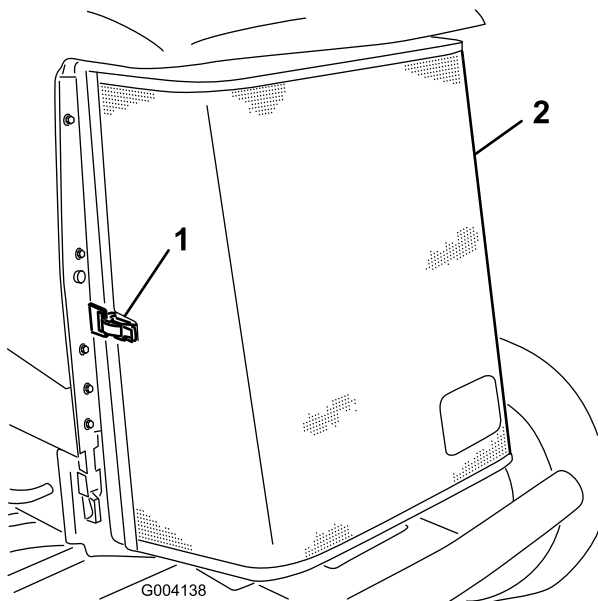

Figure 70
3. Unlatch the clamp and pivot open the rear screen (Figure 70).